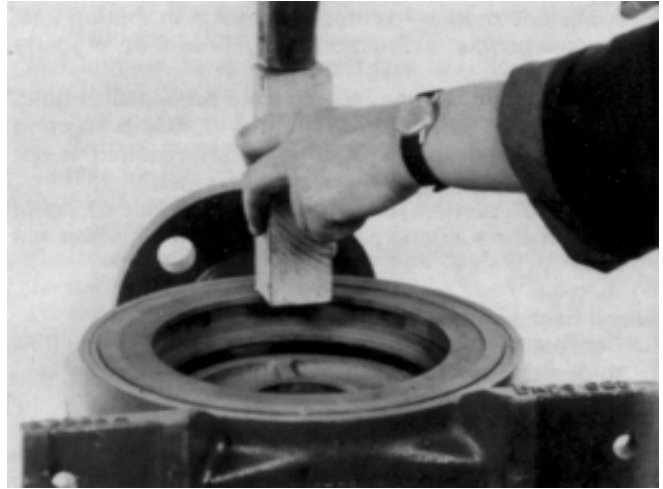

Fig. 54 Inserting the diffuser in the discharge casing.
7. Mount discharge casing (107) with inserted final stage diffuser (171.2) and O-ring (412.2). (see Figs. 54 and 54.1)